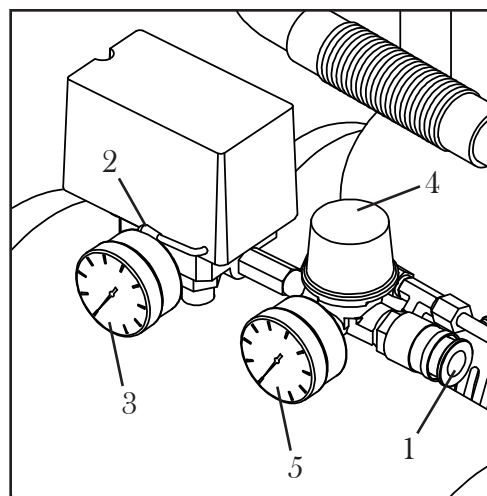

Fig. 3
3. Connect an air hose (not included) to the air line outlet (Fig. 3 - 1). Make sure the air hose is rated high enough to handle the max PSI of the compressor (125 PSI).
5. Turn the pressure switch (Fig. 3 - 2) to the ON/AUTO position (to the left) to allow the compressor to automatically start up and shut down depending on its need for air. NOTE: Make sure this switch is set to OFF before unplugging, plugging in, or storing the compressor.
6. Allow the compressor to reach the desired PSI on the tank pressure gauge before turning off the compressor. If left on, the compressor will reach its maximum PSI of 125 and turn off automatically. Then once the tank PSI lowers to 95 PSI, the compressor will automatically turn back on until it reaches its max PSI again. Check the tank pressure gauge (Fig. 3 - 3). DO NOT ALLOW THE COMPRESSOR TO FILL UP TO MORE THAN 125 PSI.
7. Turn the tool pressure regulator (Fig. 3 - 4) to control the output of air flow from the compressor. The tool pressure gauge (Fig. 3 - 5) will show you the current pressure from the air line outlet. Make sure that this pressure is not higher than the working pressure of any pneumatic tools hooked up to the compressor. Using a pressure higher than the rated pressure of an attached tool creates the possibility of damaging or, in worse case scenarios, bursting said power tool. Using a pressure that is too low for a tool can result in misfires and improper function.